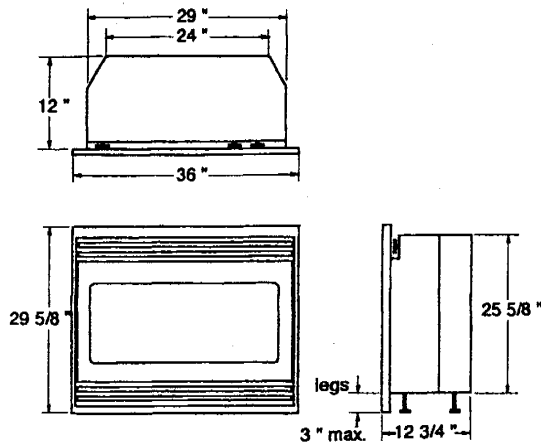

FIGURE 1
- The dimensions of the fireplace/insert are 36" wide (91cm) X 29 5/8" high (75cm) X 12 3/4" deep (32cm). (FIGURE 1) We recommend you leave a clearance around the insert of 1/2" (1.2cm) to ease installation.